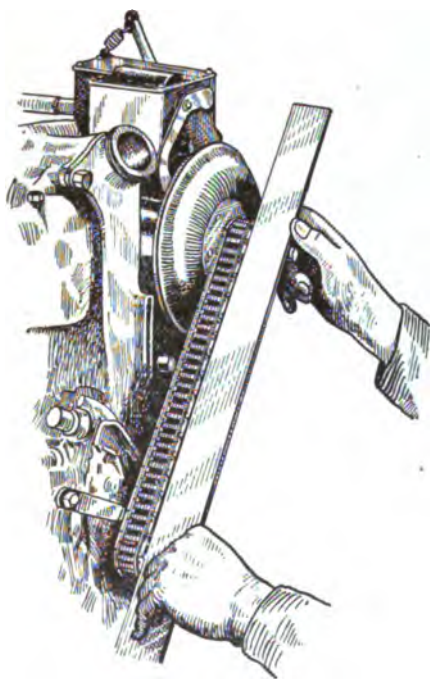

Fig. 368. Method of Checking Chain Alignment with Straightedge
**strap and tilt the whole unit slightly to receive the chain. Apply a straightedge, as shown in Fig. 368, and align the sprocket accurately,**